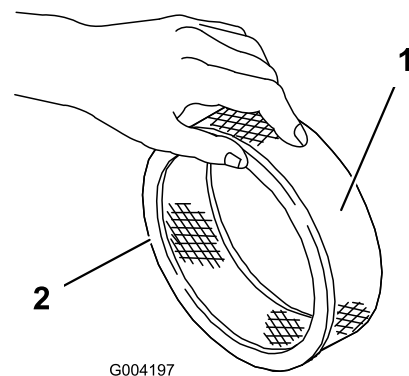

Figure 19
5. Inspect the paper filter for tears, an oily film, and damage to the rubber seal (Figure 19).
1. Carefully slide the foam pre-filter onto the paper filter (Figure 19).